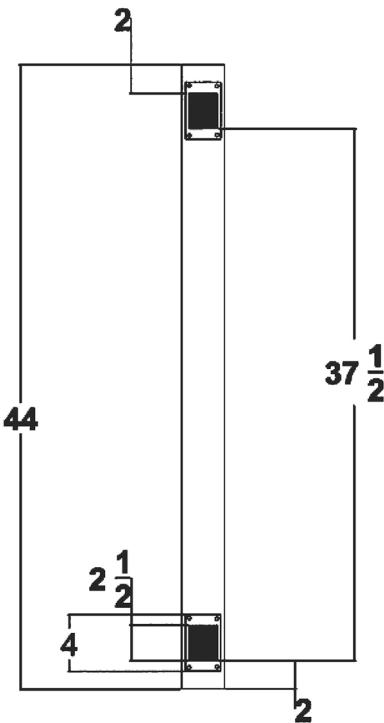

Figure 2:
4. For the 42" Rail: Measure up 2 inches from the floor surface to locate the bottom rail base brackets. Secure the mounting brackets with screws through the vinyl post. Measure up an additional 37½ inches to locate and install the top rail base brackets (see Figure 2). Repeat for each post.